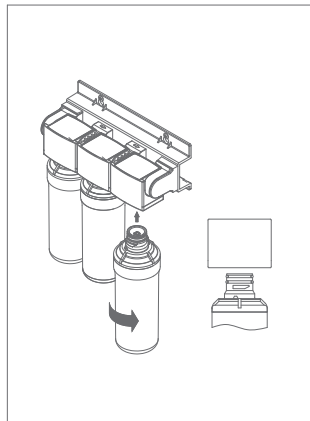

Fig.7 Installation of the Twist type filter
1. Arrange the filter as shown in Fig.7 and insert the filter. Push it up and insert by turing 90° clockwise.